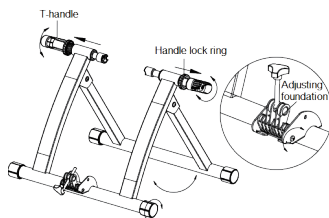

FIG.2
- 1.2** As shown in fig.2, unfold the stand A of the bike trainer on the ground, make the bike trainer stable by rotating the base sleeve on the base tube, so that the four pedestal sleeves can fully contact the ground at the same time, and the riding platform does not shake.